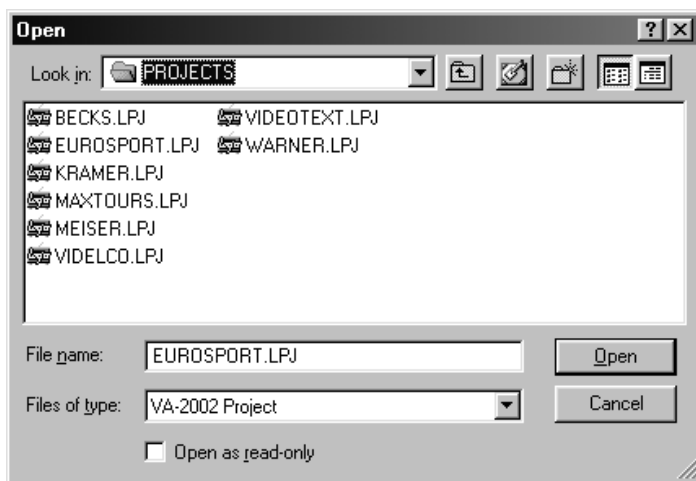

Figure 23: Selecting a Project File
2. Click the Load button and then choose a VA-2002 Project file, as Figure 23 illustrates: